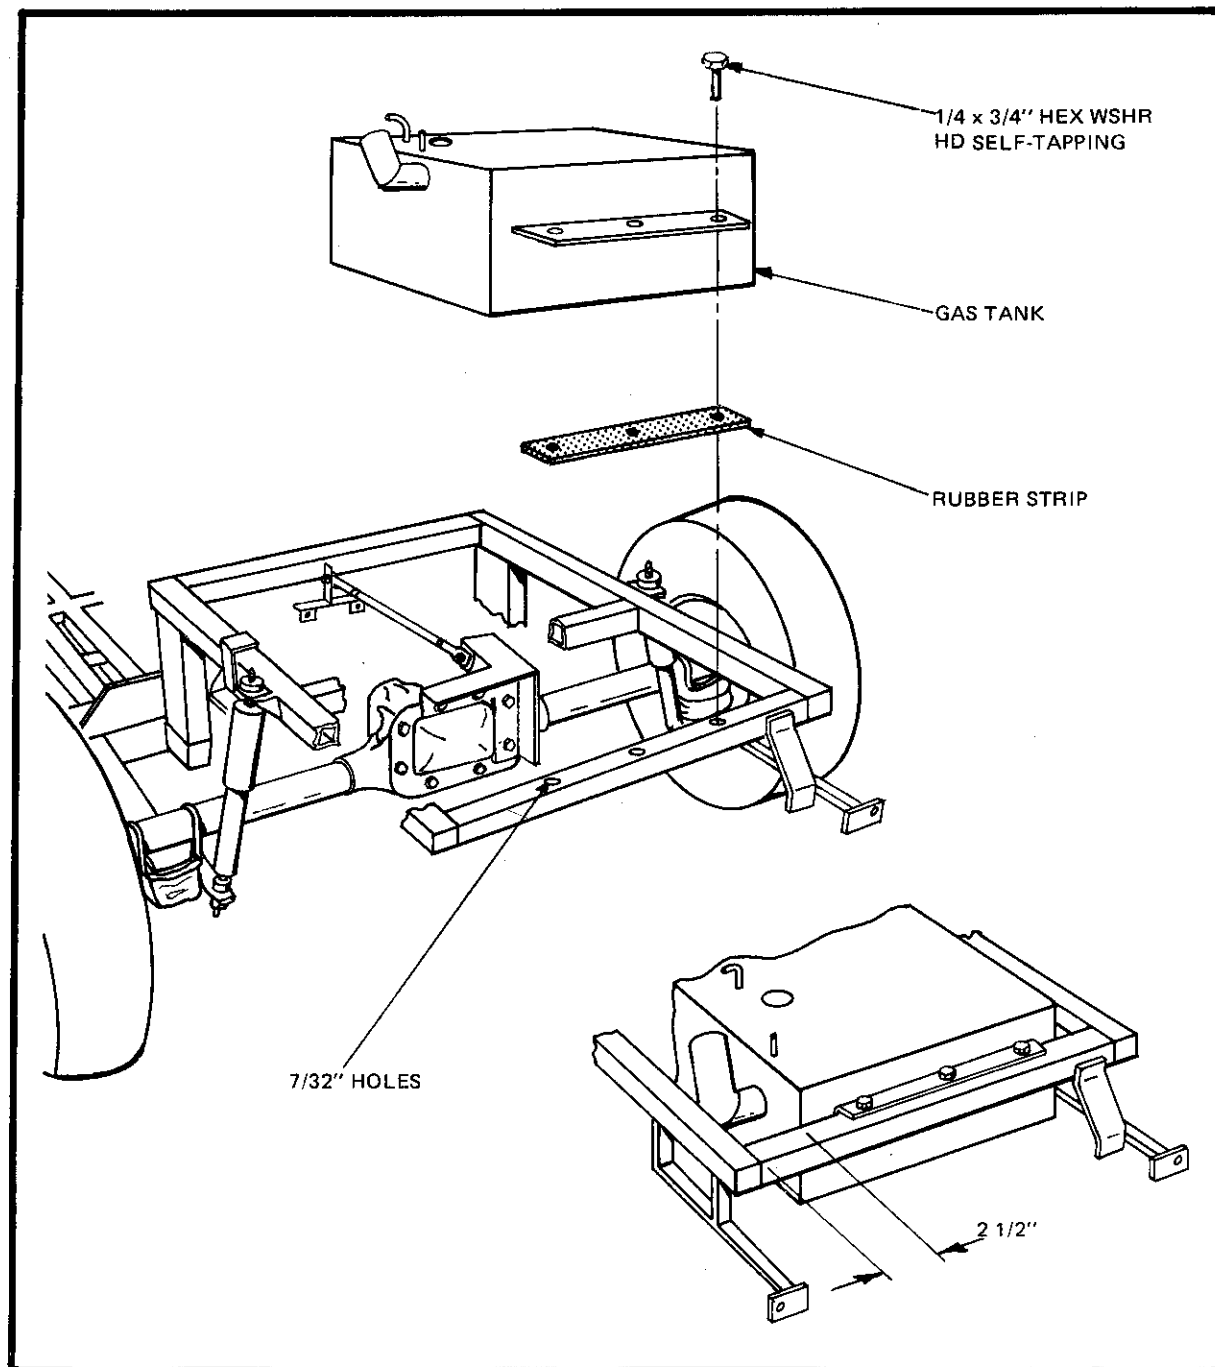

Figure 10
- ☐ Drop gas tank between rear frame members, with the angled gas filler on the left. Position tank 2 1/2" from side of frame. Mark hole locations. Remove tank and drill 7/32" holes at marked location. Glue strips of rubber matting to top of frame where it will contact gas tank flange. Reinstall tank and secure with 1/4 x 3/4" hex washer head self-tapping screws. (Figure 10)